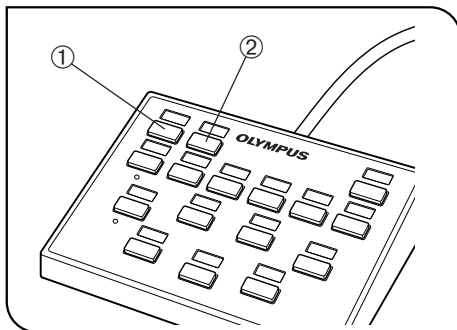

Fig. 1
(Fig. 1)
(Figs. 1 & 2)
1. Press the BF button (① in Fig. 1) on the hand switch to select the reflected light brightfield path.